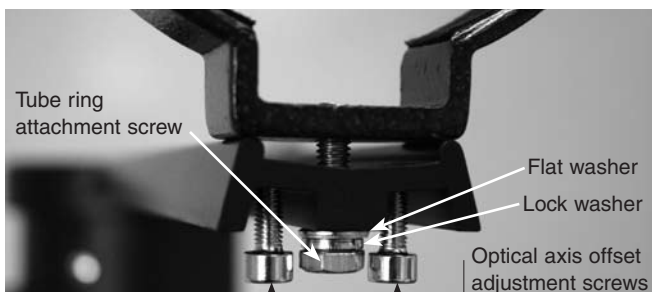

Figure 3. The tube ring mounting plate.
1. Attach the tube mounting rings to the tube ring mounting plate using the screws that come with the tube rings. The screws should go through the center holes in the ends of the mounting plate and rethread into the tube rings. Note that the side of the mounting plate with the central "groove" will be facing up (Figure 3). Use a small wrench to secure the tube rings to the mounting plate.
Note: The optical axis offset adjustment screws should be oriented so that the threaded shaft extends upward through the top surface of the tube ring mounting plate. If the tube ring mounting plate arrives with the optical axis offset screws installed backwards, reverse their orientation before proceeding (Figure 3).